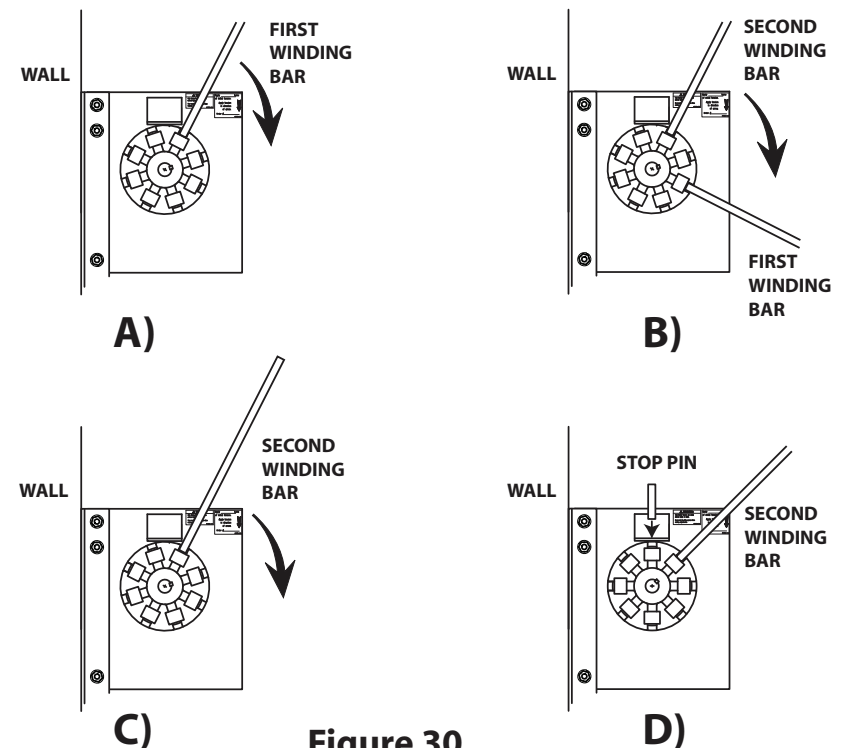

Figure 30
- Insert winding bar into tension wheel and pull down. See Figure 30 A.
- Hold first bar and insert second bar into tension wheel. See Figure 30 B and C.